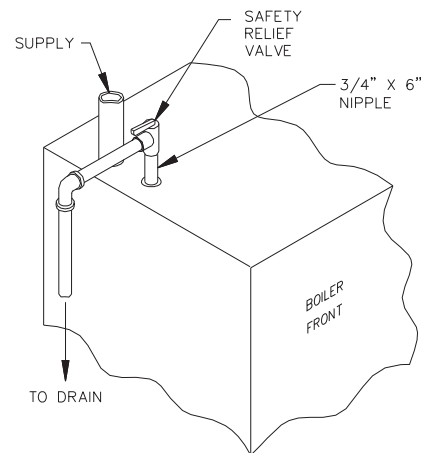

Figure 3.3: Safety Relief Valve Hook-Up Installation with Air Elimination in System Piping
2. If air elimination is not required at the safety relief valve tapping, install valve and piping as shown in Figure 3.3.